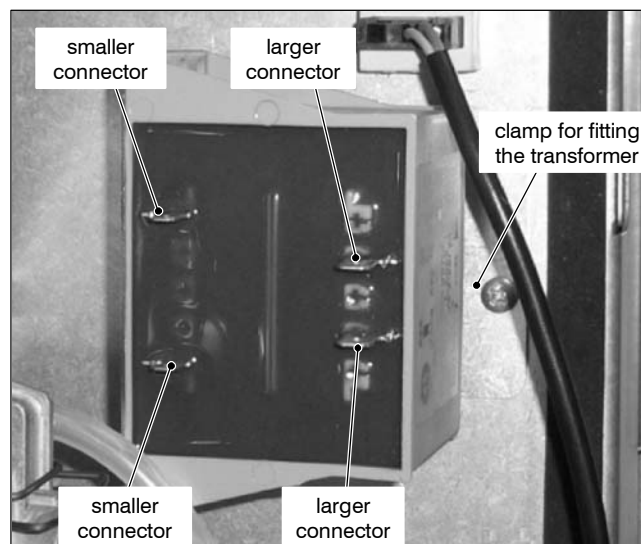

Fig. 10.2
**After reassembling ensure the wires are correctly connected (see Fig. 10.2)**